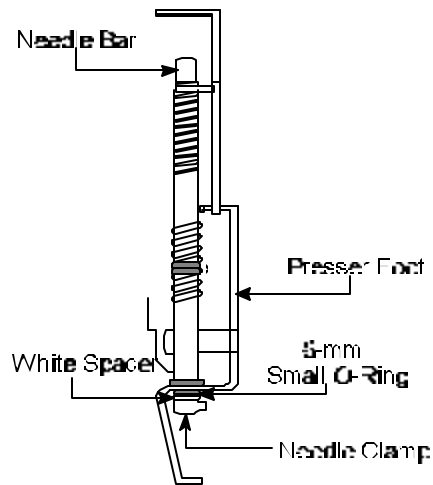

Figure 2
8. **Squeeze** and **hold** Needle Bar and Presser Foot together and **remove** needle clamp, white spacer and 6 mm O-ring. See Figure 2.